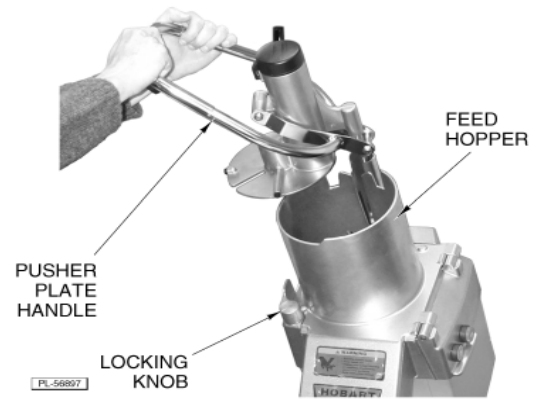

Fig. 2
1. Lift the pusher plate handle and move it to the left, away from the feed hopper (Fig. 2).
2. Turn the locking knob counterclockwise to unlock the feed hopper (Fig. 2).
3. Raise the feed hopper (Fig. 2).
8. Move the feed hopper back into position (Fig. 2).